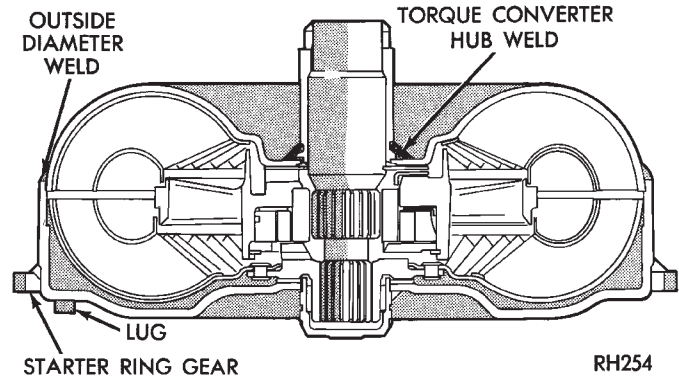

Fig. 9 Converter Leak Points—Typical
- (1) Leaks at the weld joint around the outside diameter weld (Fig. 9).
- (2) Leaks at the converter hub weld (Fig. 9).